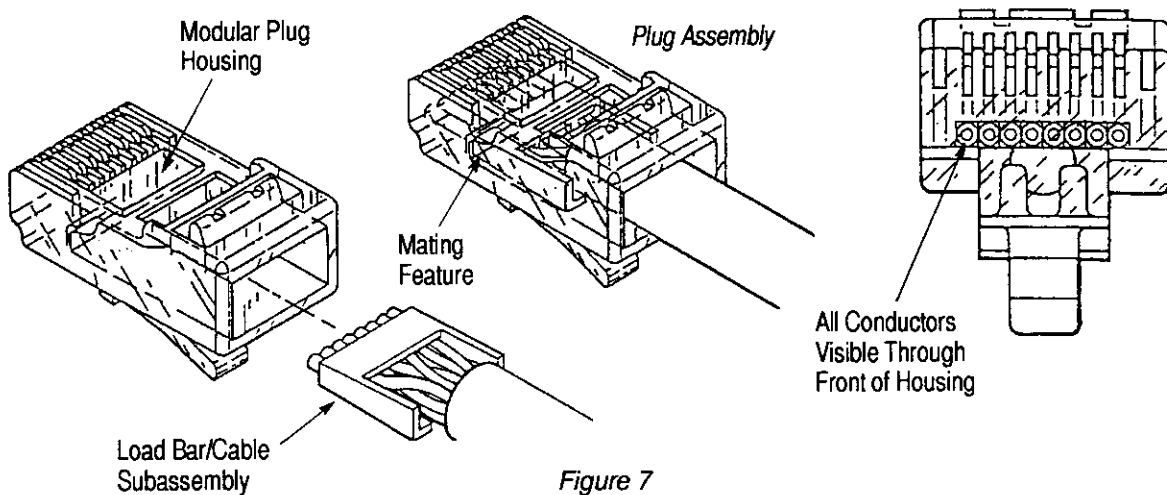

Figure 7
6. **Make sure the load bar is fully inserted into the mating feature** within the Modular Plug housing (see Figure 7). The **conductors must be completely inserted and "bottomed"** in the wire circuits and clearly visible through the front of the Modular Plug.